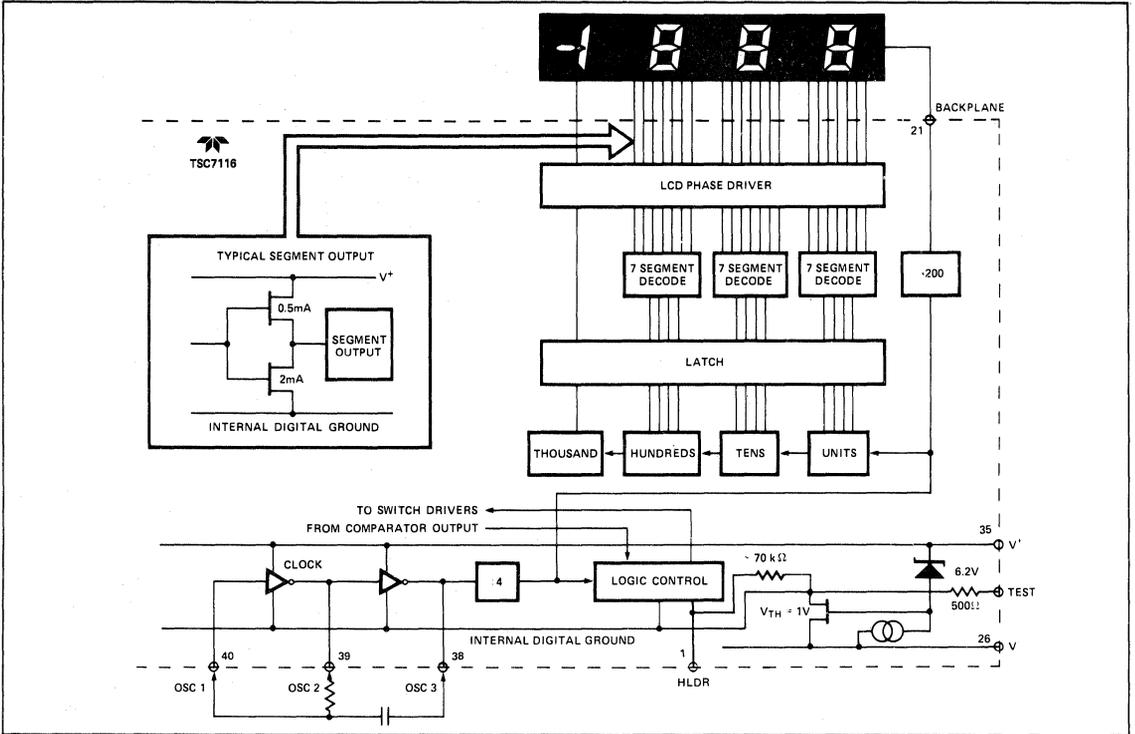

Figure 8: TSC7116 Digital Section
Figures 8 and 9 show the digital section for the TSC7116 and TSC7117, respectively. In the TSC7116 (Figure 8), an internal digital ground is generated from a 6 volt Zener diode and a large P channel source follower. This supply is made stiff to absorb the large capacitive currents when the back plane (BP) voltage is switched. The BP frequency is the clock frequency divided by 800. For three readings/second this is a 60 Hz square wave with a nominal amplitude of 5 volts. The segments are driven at the same frequency and amplitude and are in phase with BP when OFF, but out of phase when ON. In all cases, negligible dc voltage exists across the segments.